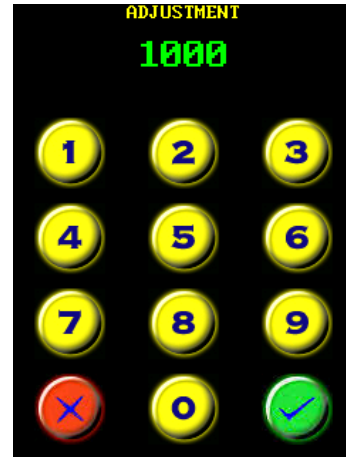

Figure 5.12-6: Number Pad
13. Select the **"Adjustment"** button on the Low Pre-Torque Adjustment Screen. A number pad will be displayed (Figure 5.12-6).